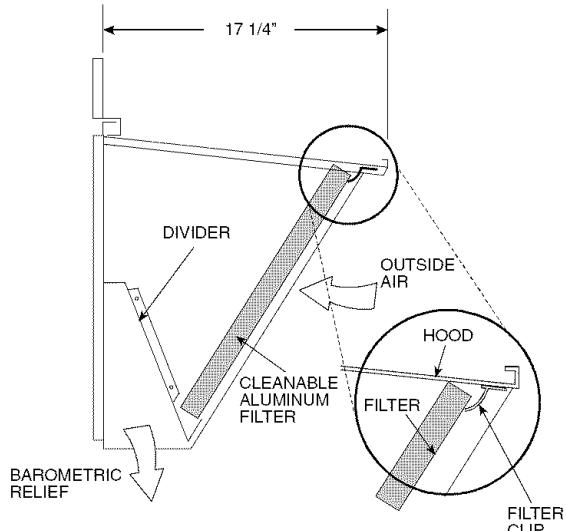

Fig. 26 — Filter Installation
7. Open the filter clips which are located underneath the hood top. Insert the aluminum filter into the bottom filter rack (hood divider). Push the filter into position past the open filter clips. Close the filter clips to lock the filter into place. See Fig. 26.